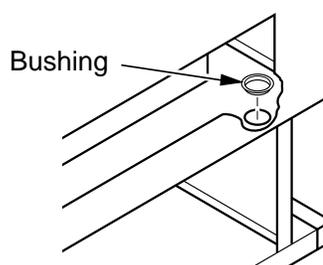

Figure 15 - Installing Bushing
5. Install one plastic bushing provided in blower kit into the 1 1/2" hole in the left rear of firebox floor. Access hole through the rectangular opening in the rear panel (see Figure 15).